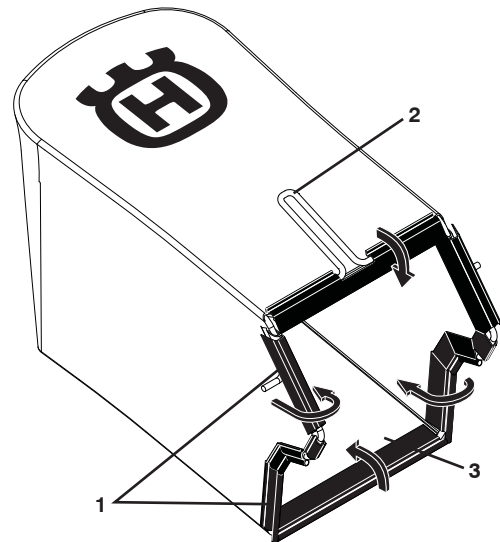

Figure 2
- Put grass catcher frame into grass bag with rigid part of bag on the bottom. Make sure the frame handle is outside of the bag top (Figure 2).